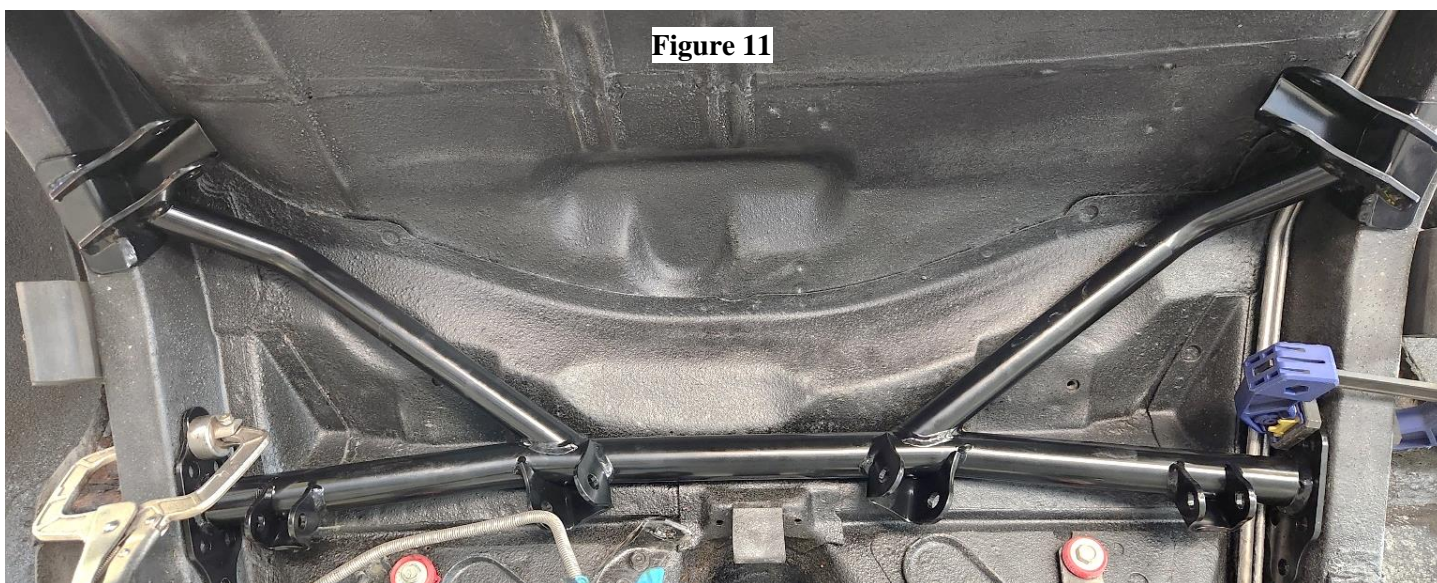

Figure 11
2. Place the QA1 crossmember in place using clamps. The center of the crossmember will tuck tight to the floor pan corner with the front flanges sitting 1/4" above the bottom of the frame rail. **(Figures 11 & 12)**